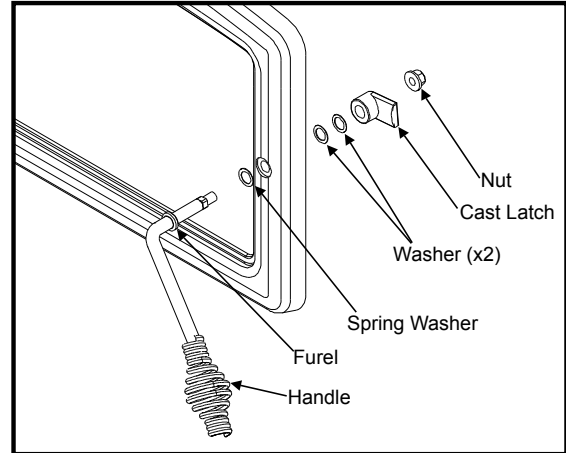

Figure 50: Installation Door Handle Hardware.
1. Install door handle as shown in Figure 50.